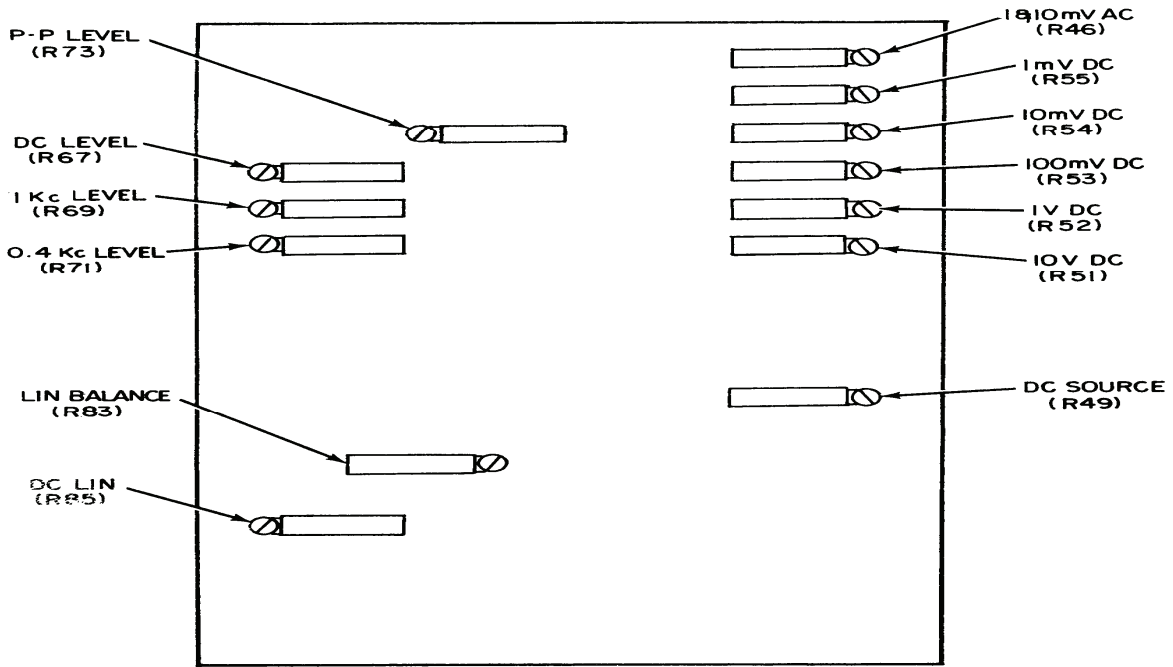
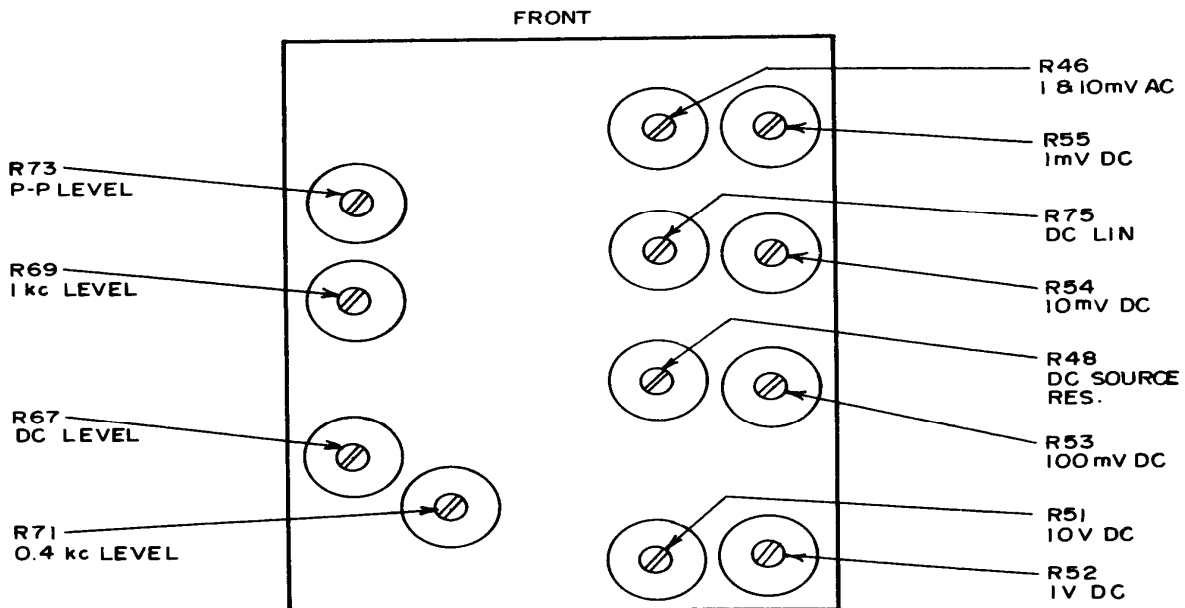

Figure 1. Model 421A (above S/N 901) adjustments.
Figure 2. Model 421A (below S/N 901) adjustments.
- Adjust R69 1 kc LEVEL (fig. 1 or 2) for 100.0000 V ac (R).
- Adjust R71 0.4 kc LEVEL (fig. 1 or 2) for 100.0000 V ac (R).
- Adjust R73 P-P LEVEL (fig. 1 or 2) for 35.3500 V ac (R).
- Adjust R46 1 & 10 mV AC (fig. 1 or 2) for 0.0100 or 0.0010 V ac depending on range switch setting (R).
R46 1 & 10 mV ac (fig. 1 or 2) affects the 1 mV range as well as the 10 mV range and should be adjusted for best overall indication on both ranges.
(1) Set **RANGE** switch to **100 V** and **OUTPUT VOLTAGE** controls to **TEN0.00**.
(2) Adjust R67 DC LEVEL (fig. 1 or 2) for a 100.0-V dc indication on multimeter (R).
(3) Set **OUTPUT VOLTAGE** controls to **10.00**.
(4) Adjust R85 DC LIN (fig. 1) [R75 DC LIN (fig. 2) for TI with S/N below 900] for a 10.0 V dc indication on multimeter (R).
(5) Set **MODE** switch to **DC NEG**.
(6) Note multimeter indication and adjust R83 LIN BALANCE (fig. 1) to eliminate half the error from 10 V (R).
(7) Adjust R85 DC LIN (fig. 1) for a 10 V indication on multimeter (R).
(8) Set **MODE** switch to **DC POS**.
- (9) Repeat technique of (1) through (8) above as necessary for best overall indications.
- (10) Set **RANGE** switch to **100 V** and **OUTPUT VOLTAGE** controls to **TEN0.00**.
- (11) Disconnect resistant decade from TI.
- (12) Measure and record TI output.
- (13) Adjust resistance decade to 20 kilohms and reconnect to TI output.
- (14) Adjust R48 DC RESOURCE RES (fig. 2) [R49 DC SOURCE (fig. 1) for TI with S/N below 900] to obtain multimeter indication of value recorded in (12) above, minus 4.762 V (R).
- (15) Adjust resistance decade to 1 megohm.
- (16) Set **RANGE** switch to **10 V** and **OUTPUT VOLTAGE** controls to **TEN.000**.
- (17) Adjust R51 10 V DC (fig. 1 or 2) for a 10.0 V indication on multimeter (R).
- (18) Set **RANGE** switch to **1 V** and **OUTPUT VOLTAGE** controls to **.TEN000**.
- (19) Adjust R52 1 V DC (fig. 1 or 2) for a 1.0 V indication on multimeter (R).
- (20) Set **RANGE** switch to **100 mV** and **OUTPUT VOLTAGE** controls to **TEN0.00**.
- (21) Adjust R53 100 mV DC (fig. 1 or 2) for a 100 mV (millivolt) indication on multimeter (R).
- (22) Set **RANGE** switch to **10 mV** and **OUTPUT VOLTAGE** controls to **TEN.000**.
- (23) Adjust R54 10 mV DC (fig. 1 or 2) for a 10.0 mV indication on multimeter (R).
- (24) Set **RANGE** switch to **1 mV** and **OUTPUT VOLTAGE** controls to **.TEN000**.
- (25) Adjust R55 1 mV DC (fig. 1 or 2) for a 1.0 mV indication on multimeter (R).